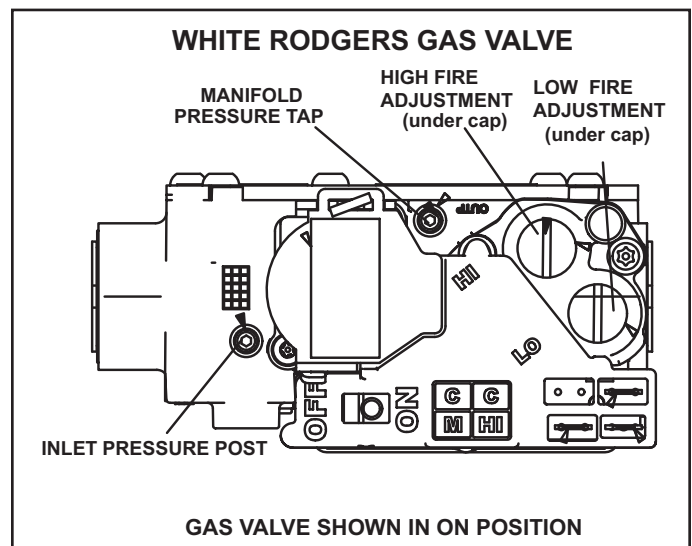

FIGURE 35
Gas Valve Operation (FIGURE 35)
- 6 - Move gas valve switch to OFF position. Do not force. See FIGURE 35.
- 8 - Move gas valve switch to ON position. Do not force. See FIGURE 35.
- 4 - Move gas valve switch to OFF position. Do not force. See FIGURE 35.
An inlet post located on the gas valve provides access to the supply pressure. See FIGURE 35. Back out the 3/32 hex screw one turn, connect a piece of 5/16 tubing and connect to a manometer to measure supply pressure. See TABLE 19 for supply line pressure.
A manifold pressure tap located on the gas valve provides access to the manifold pressure. See FIGURE 35. Back out the 3/32 hex screw one turn, connect a piece of 5/16 tubing and connect to a manometer to measure manifold pressure.
- 4 - If necessary, make adjustments. FIGURE 35 shows location of high fire and low fire adjustment screws.